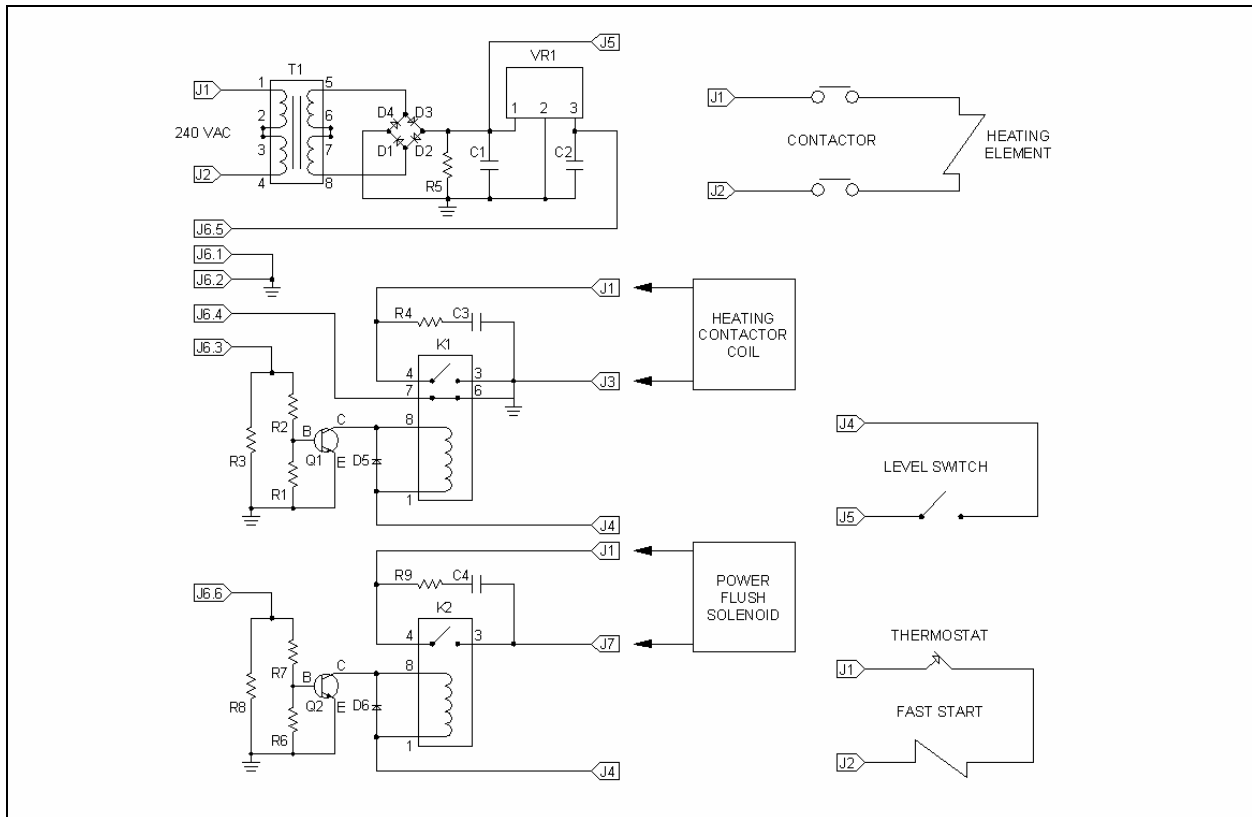

Figure 6
2. Connect 240-VAC electrical lines to wires labeled 1 & 2 located in the electrical box on generator, (refer to Figure 6).